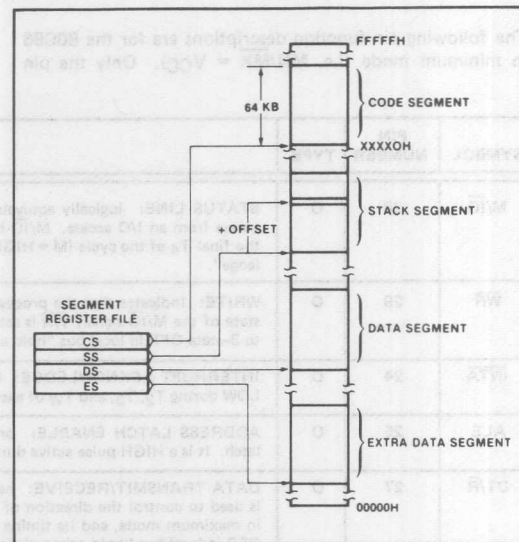

Figure 1. 80C86 Memory Organization
The processor provides a 20-bit address to memory, which locates the byte being referenced. The memory is organized as a linear array of up to 1 million bytes, addressed as 00000(H) to FFFFF(H). The memory is logically divided into code, data, extra data, and stack segments of up to 64K bytes each, with each segment falling on 16-byte boundaries. (See Figure 1).